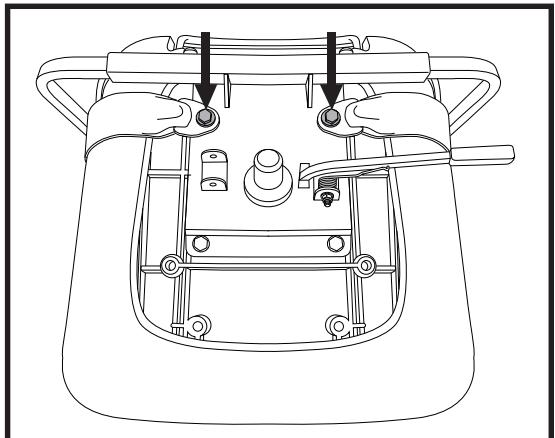

Figure 29. Positioning Belt Bolts
2. Place the seat upside down so that you can see the bottom of the seat base. See **figure 29**.